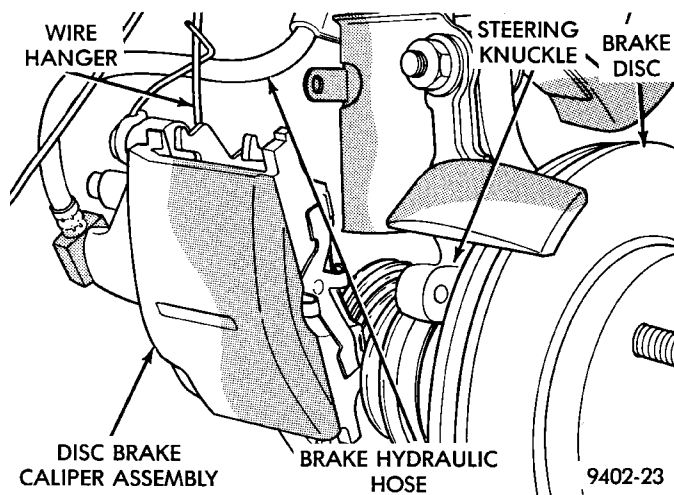

Fig. 56 Storing Disc Brake Caliper
(5) Support the disc brake caliper firmly using a wire hanger (Fig. 56). This is required to prevent the weight of the caliper from damaging the flexible brake hose.